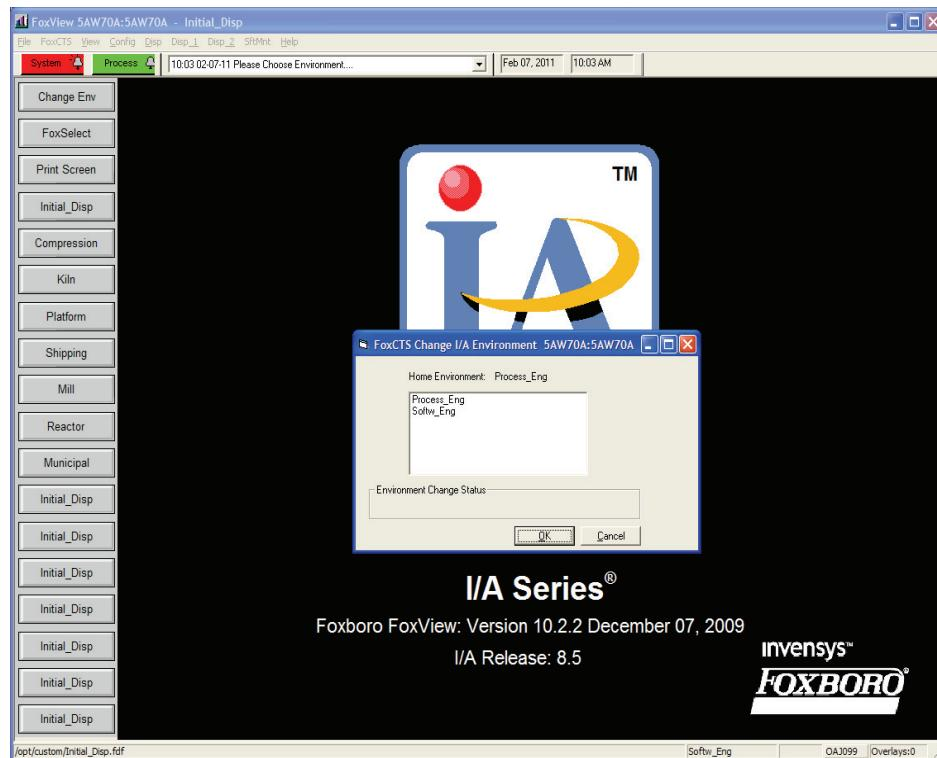

Figure 4. User Change Environment Screen
- ▶ Users then may change to their configured environments by choosing from a pop-up list. This pop-up list contains environments that have been configured for the current user, as shown in Figure 4.